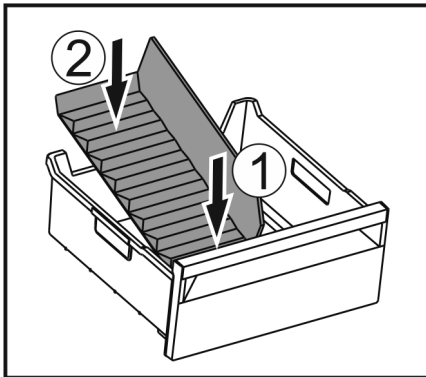

Fig. 144
- Insert the front part of the ice compartment divider. Fig. 144 (1)
- Lower the rear part of the ice compartment divider to the drawer bottom. Fig. 144 (2)